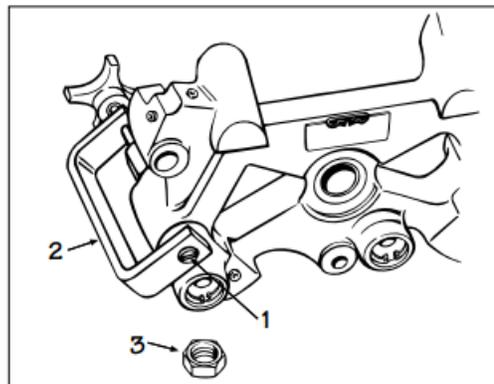

FIG. 8
1. Remove the locknut (3) (Fig. 8) from the slave piston adjusting screw (1). Back out the adjusting screw until the slave piston is fully retracted (screw is loose).